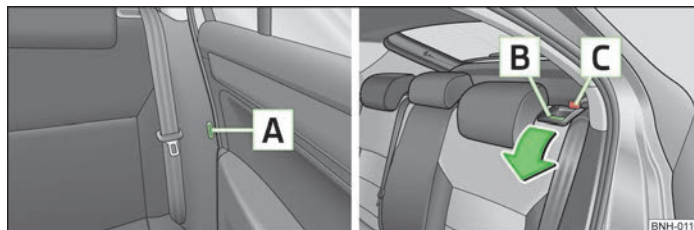

Fig. 36 Unlock the seat backrest
- Put the belt tongue into the opening **A** » Fig. 36 on the respective side of the vehicle – safety position.